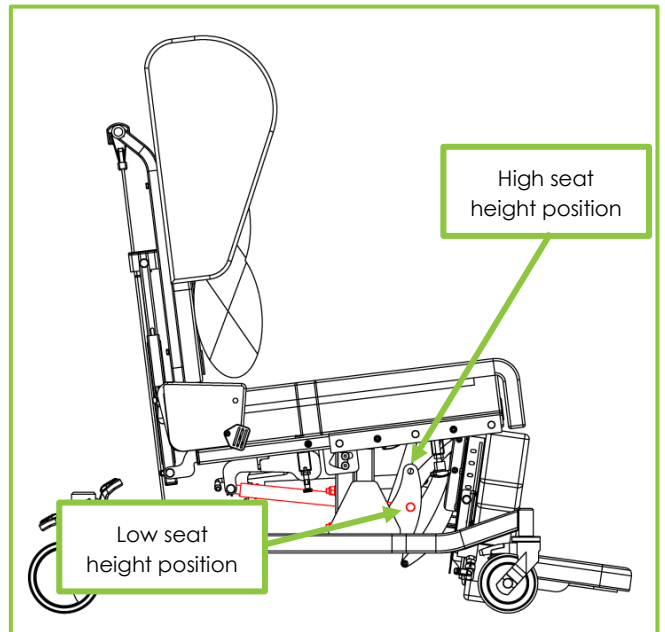

Figure 19 – Actuator mounting
9. Refit the tilt gas strut clevis pin and R clip in the required hole of the base frame. (Fig 19).